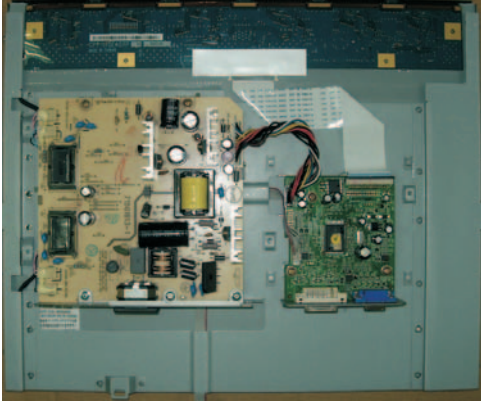

Fig.12
- Remove the Power and Scaler shielding as shown in Fig.12